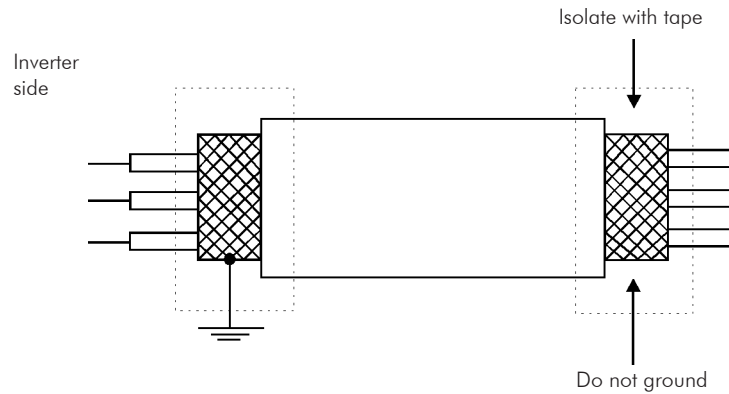
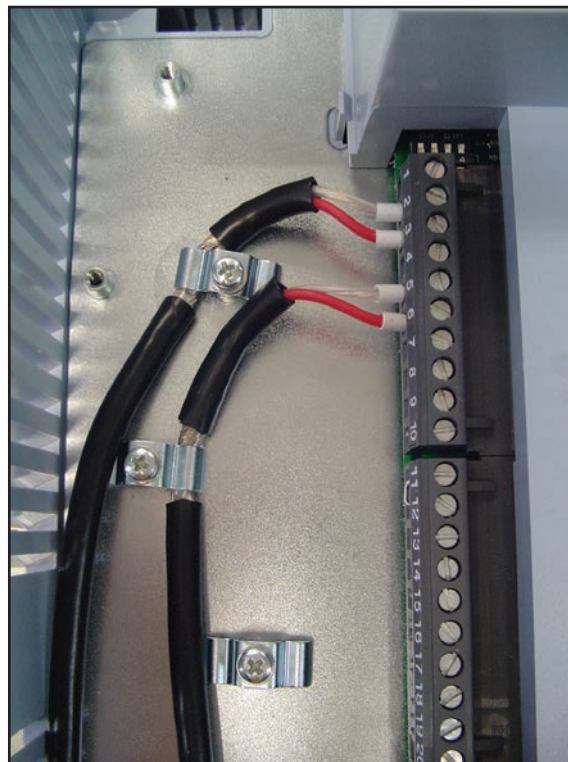

Figure 3.20 - Shield connection
Figure 3.21 - Example of shield connection for the control wiring
- 4) The adequate connection of the cable shield is shown in figure 3.20. Figure 3.21 shows how to connect the cable shield to the ground.